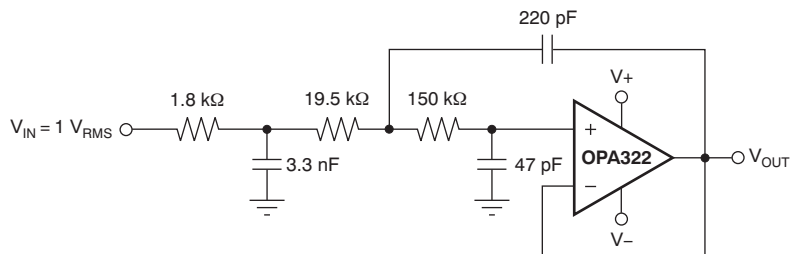

Figure 38. OPA322 Configured as a Three-Pole, 20-kHz, Sallen-Key Filter
3. using a noninverting filter topology, such as the Sallen-Key (shown in Figure 38).